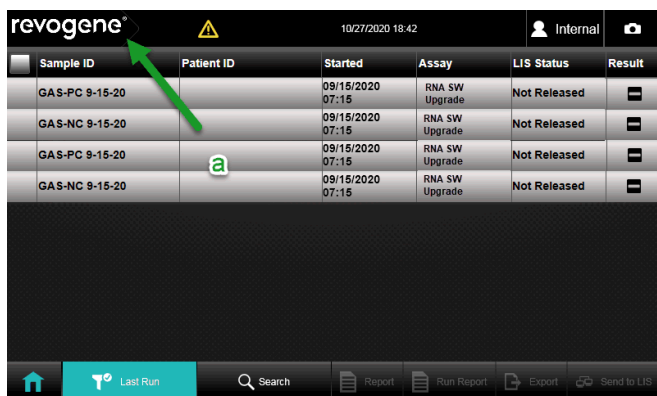

Figure 18. Revogene Logo
- a. Tap on the revogene/GenePOC logo on the upper left corner of the screen (Figure 18).